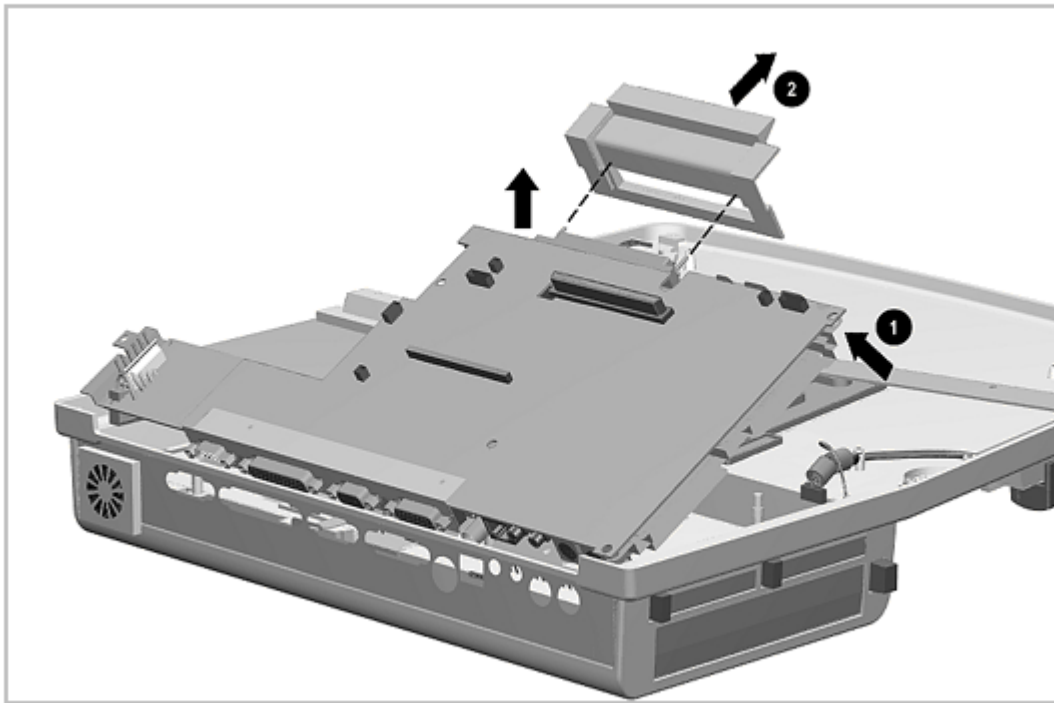

Figure 7-20. Removing the Main Board Assembly
6. Lift the main board out of the base. Begin lifting at the front edge of the board [1]. The CPU connector bezel [2] comes off with the board but is not attached to the board. Some manipulation is required around the PC Card door module (Figure 7-20).